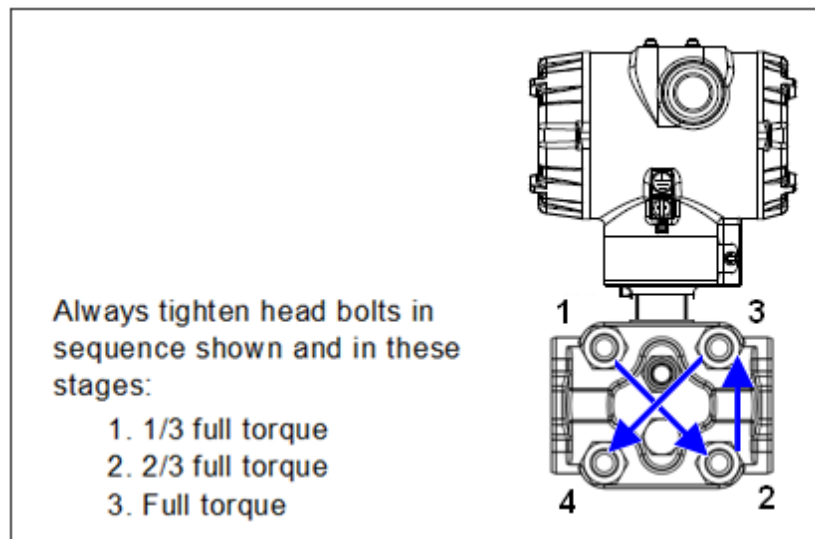

Figure 28 – ST 700 Standard Transmitter - Head Bolt Tightening Sequence
16. Use a torque wrench to gradually tighten nuts to torque rating in sequence shown in Figure 28. Tighten head bolts in stages of 1/3 full torque, 2/3 full torque, and then full torque.